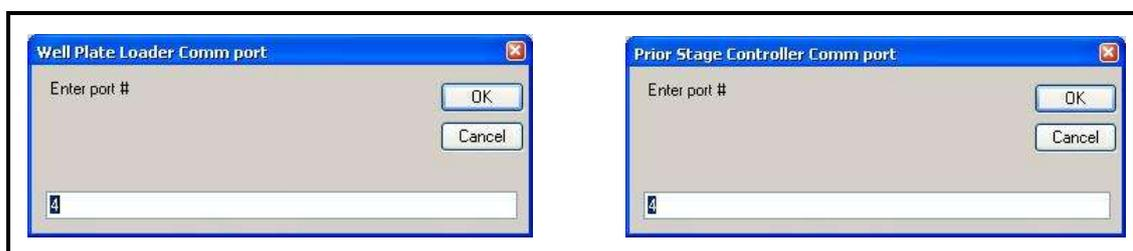

Fig: 20
4. Enter or confirm the “Well Plate Loader Comm port” number and the “Prior Stage Controller Comm port”. (Fig 20) The port address is automatically assigned by Windows but can be confirmed through the systems Device Manager.